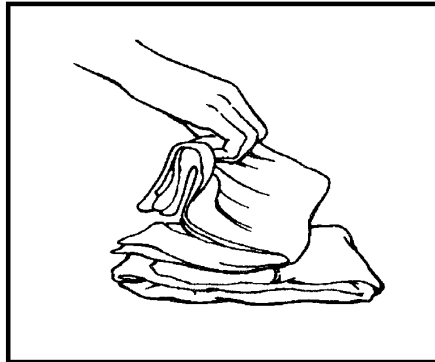

Figure 3-15
a. Lift a sterile hand towel from the top of the gown pack straight up without touching the sterile gown under the towel or any unsterile item. (See Figure 3-15.)